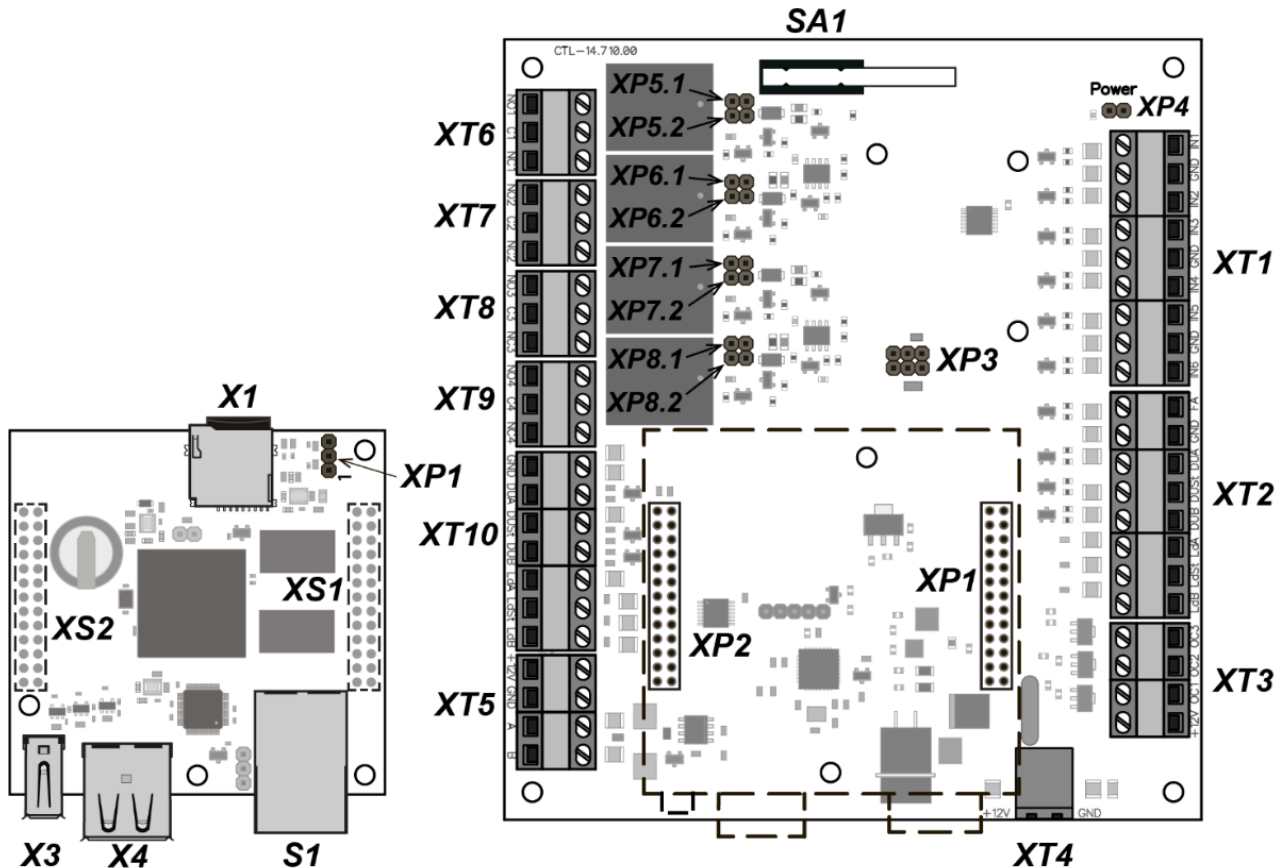

Figure 1. The upper and lower controller boards
The controller features two boards – upper board (processor module) and lower board (process execution module). The **XS1** – **XS2** terminal blocks of the upper board are connected to the **XP1** – **XP2** connectors of the lower board. The controller boards are shown in Fig. 1. The terminal blocks application is given in the Table 1.
The controller provides status control of four inputs controlled by “dry contact” or “open collector” (OC): *IN1* – *IN6*. Connection to the outputs is performed via *XT1* terminal block of the controller lower board (Fig. 1 and 3).